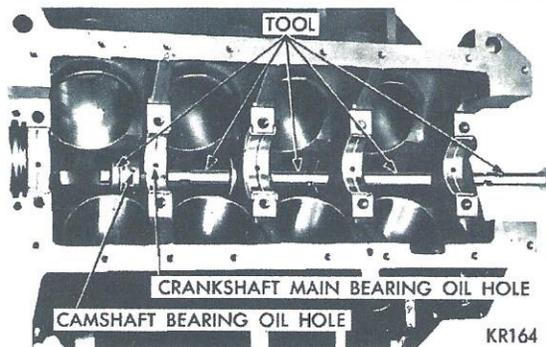

Fig. 30—Removing Camshaft Bearing
- (1) With engine completely disassembled, drive out camshaft rear bearing welch plug.
- (2) Install proper size adapters and horse shoe washers (part of Tool C-3132A) at the back of each bearing to be removed and drive out bearings (Fig. 30).
The oil holes in camshaft bearings and the cylinder block must be in exact register to insure proper lubrication (Fig. 30).